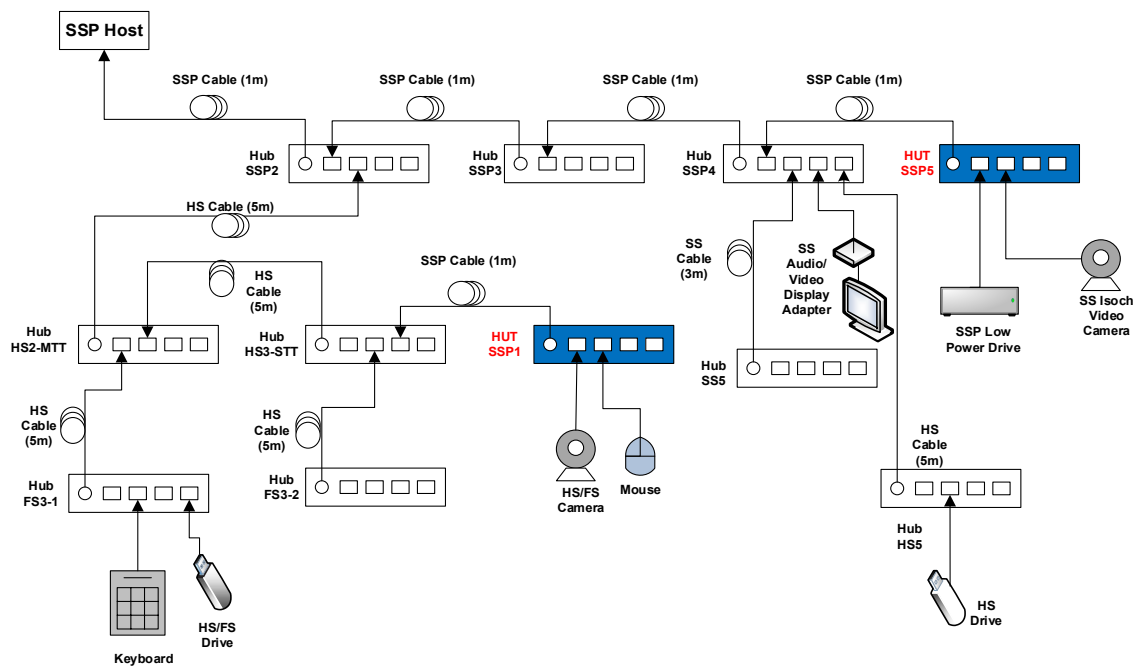

Figure 3-7: Topology Change 2
- Attach Hub SSP1 to Port 3 of Hub HS3-STT. Attach Mouse and Camera to Ports 1 and 2 of Hub SSP1 as shown in Figure 3-7 and Figure 3-8